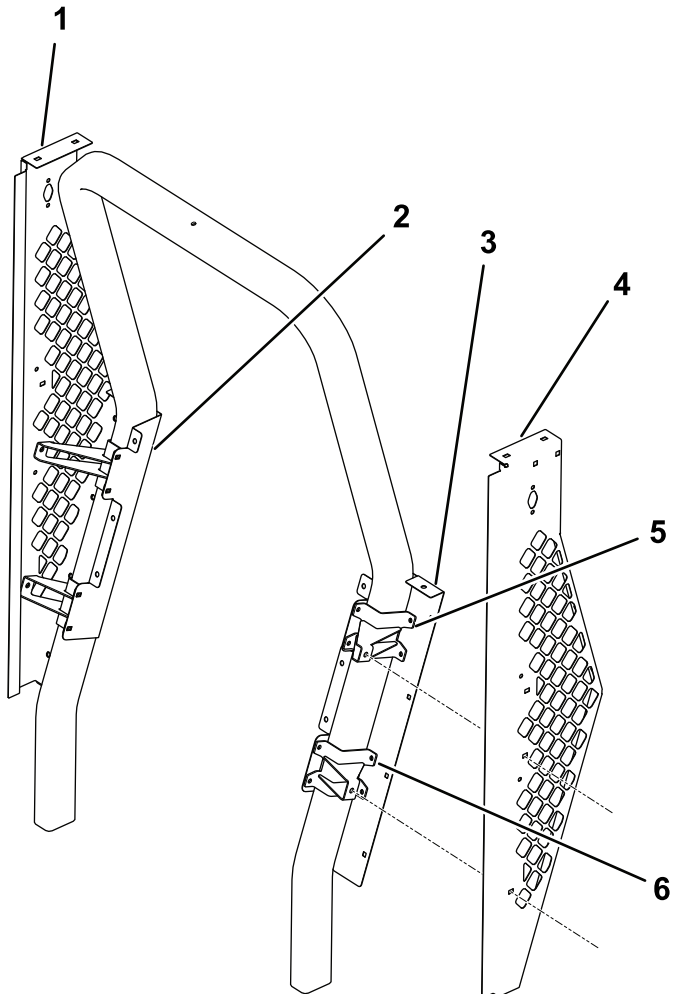

Figure 1
1. Use button-head screws (5/16 x 3/4 inch) and flange nuts (5/16 inch) to install the left side panel and the right side panel (Figure 1).
2. Use button-head screws (5/16 x 3/4 inch) and flange nuts (5/16 inch) to install the 2 upper supports and the 2 lower supports along with the left rear panel and the right rear panel (Figure 1).